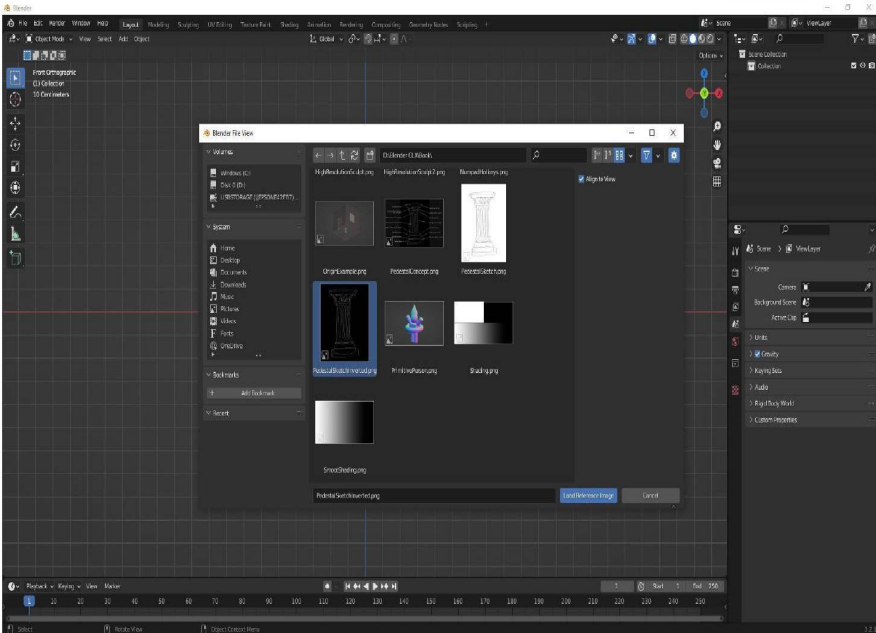

Figure 4.9: Navigating through Blender's File View to locate the desired reference image, using Thumbnail Display Mode
3. Navigate to a reference image – changing the **Display Mode** to Thumbnail if necessary – and select, then load the desired image as shown in *Figure 4.9*: